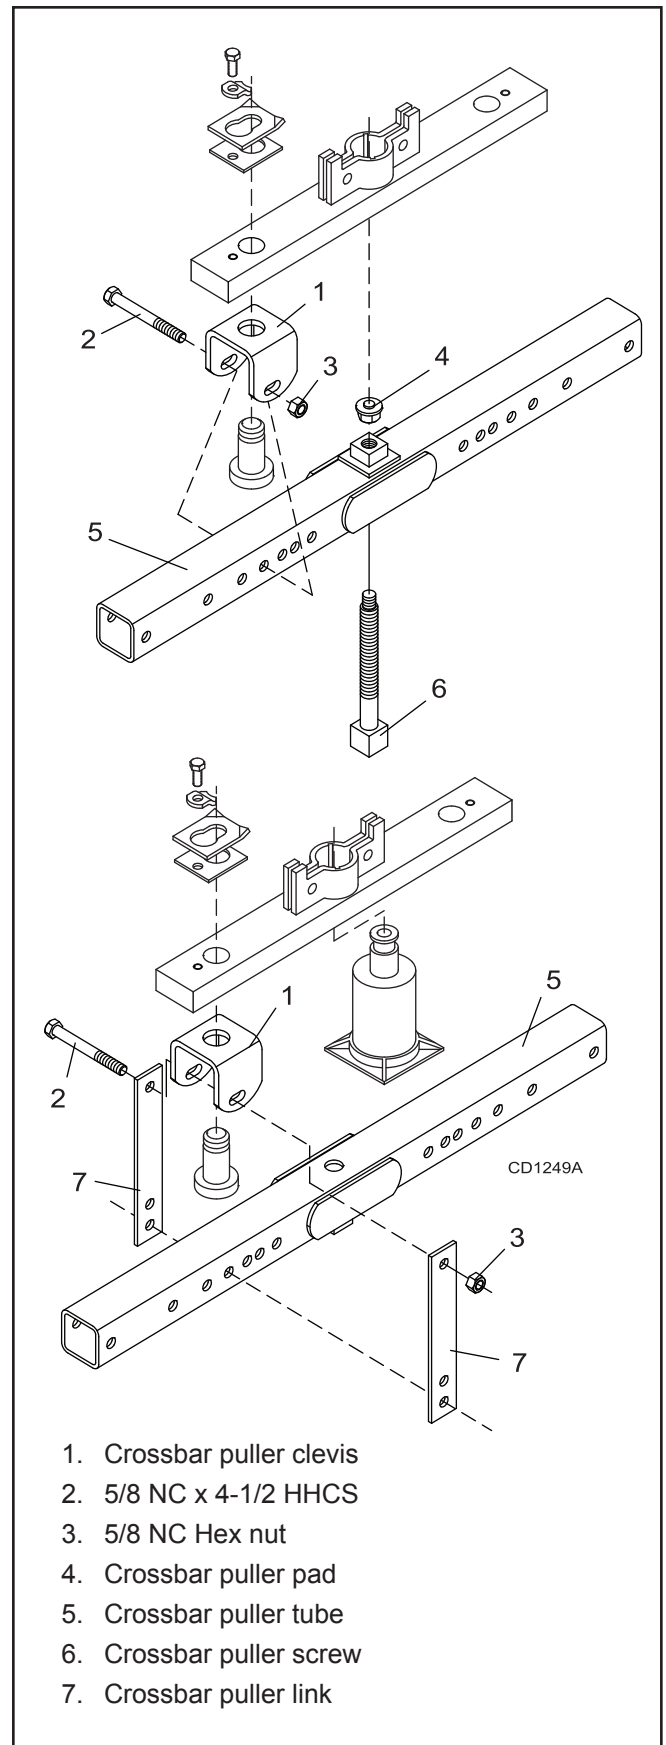

Figure 14. Crossbar Removal
NOTE: You will need to use either the puller screw (Item 6, Figure 14) or a small hydraulic jack to remove the crossbar.
4. Refer to Figure 14. Attach a clevis (1) to each end of crossbar, using blade pins, spacers, keyhole plates, and blade pin clips.
5. Position tube assembly (5) with threaded nut (4) toward crossbar for puller screw removal or down for hydraulic jack removal.
6. For removal with puller screw, attach tube (5) to each clevis with bolts (2) and nuts (3). Place pad (4) in nut and thread puller screw (6) into nut from bottom. Tighten until pad is solid against gearbox shaft. For best results, strike head of puller screw with a hammer while tightening with a wrench.
7. For removal with a jack, attach tube to each clevis with puller links (7), bolts (2), and nuts (3). Place jack on tube with end of jack pressing against gearbox shaft. Slowly apply force with jack